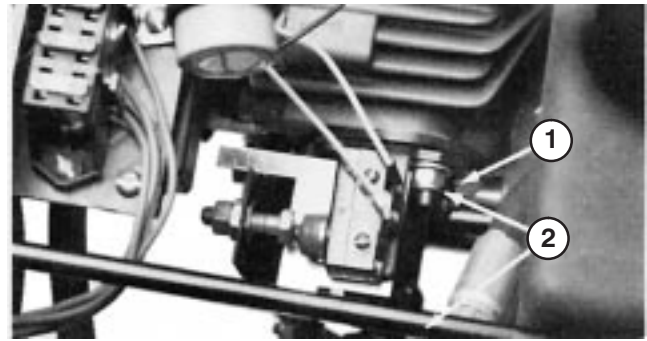

Figure 45
4. Loosen two locknuts securing pump plate so plate is free to move (Fig. 45).
5. Start engine and rotate pump plate (Fig. 45) in either direction until wheel ceases rotation.
6. Stop engine and tighten locknuts to secure pump plate (Fig. 45).